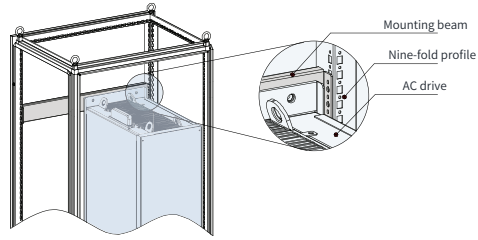

Figure 2-14 3D view of T10 to T12 drive cabinet
2	Secure the bottom mounting bracket, as shown in Figure 2-14.
2. When T10 to T12 drives are installed in the nine fold profile cabinet with a depth of 600 mm, the mounting beams must be folded inwards, as shown in Figure 2-14. When T10 to T12 drives are installed in the cabinet with a depth of 800 mm, it is not needed to fold the mounting beam inwards.